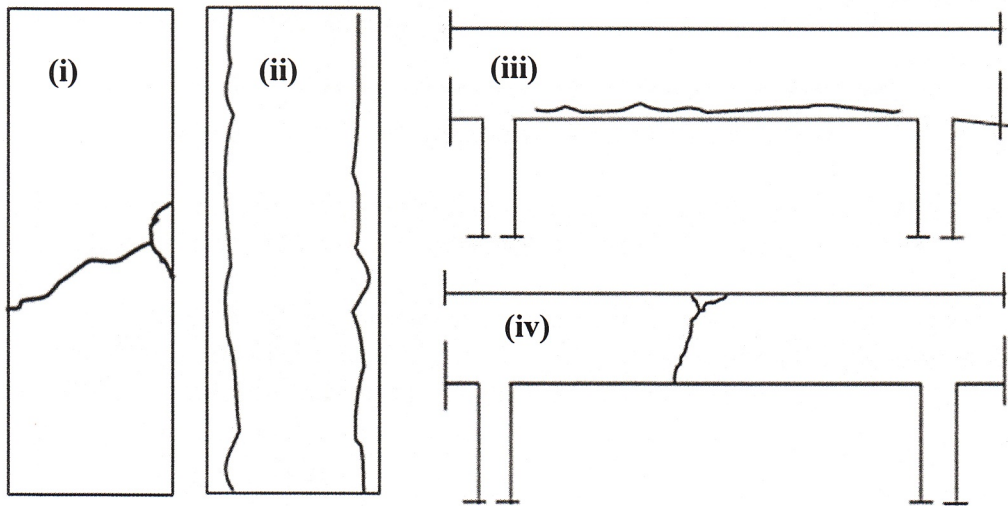

Figure 4
5. a) What assumptions are made in calculating the flexural resistance of a section strengthened with an externally applied FRP system? (8)
- b) What are the failure modes of FRP strengthened flexural member as per ACI. (5)
- c) “Confinement of circular column is better than confinement in rectangular column”, Explain why? (4)
- d) Explain how concrete surface should be prepared before retrofitting. (3)
6. a) What are the main causes of deterioration of RC structures in Bangladesh? Discuss the problems that occur commonly during RC construction works in Bangladesh. (12)
- b) Explain concrete crack sealing by injection method. (4)
- c) Explain possible reasons for the cracks in RC beams and columns shown in *Figure 4*. (4)